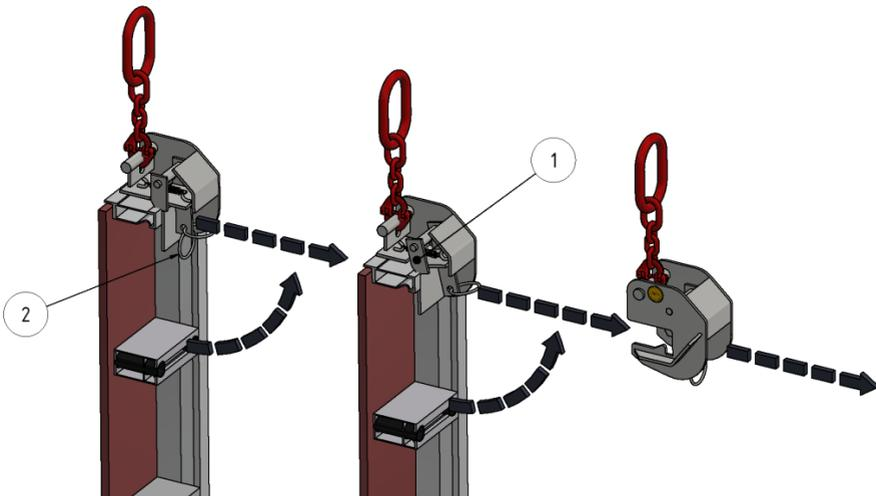

Figure 9: Detaching crane hook
The Alu-L crane hook is detached as illustrated in Fig. 9.
Pull the ring of the actuating lever (2) outward and hold it down so that the safety catch (1) is raised. Pull the crane hook back to remove it (Fig. 9).
<p>The actuating lever (2) snaps automatically into its initial position (Fig. 9 right).</p>